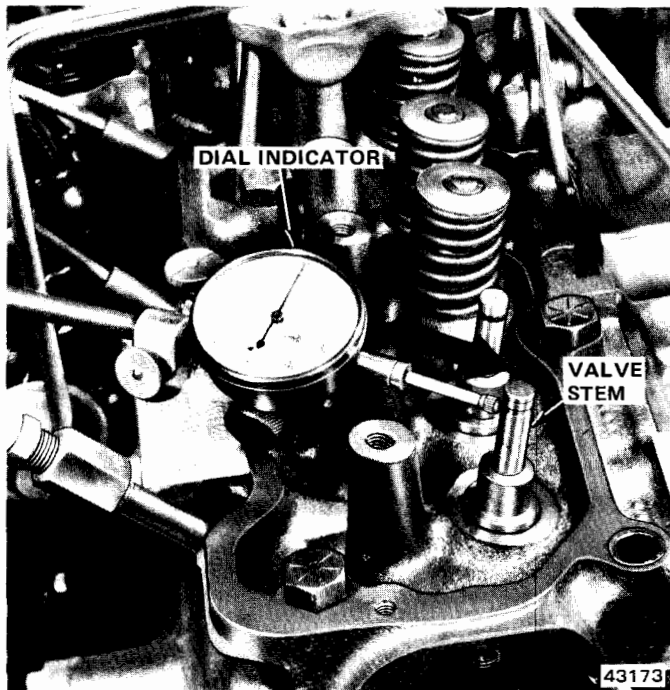

Fig. 1A-17 Checking Stem-to-Guide Clearance
- Use a dial indicator to measure the lateral movement of the valve stem with the valve installed in its guide and just off the valve seat (fig. 1A-17). Correct clearance is 0.001 to 0.003 inch.